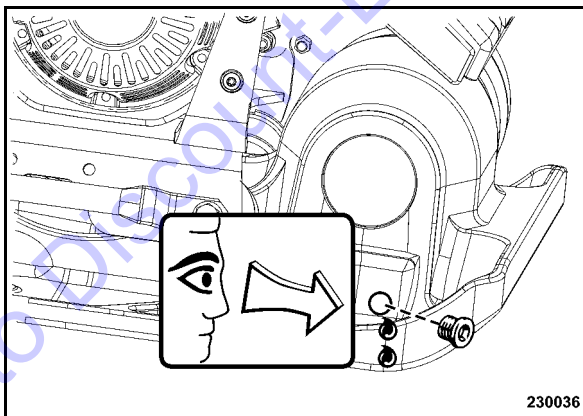

Fig. 73
- Fill in oil to the lower edge of the bore (Fig. 73).